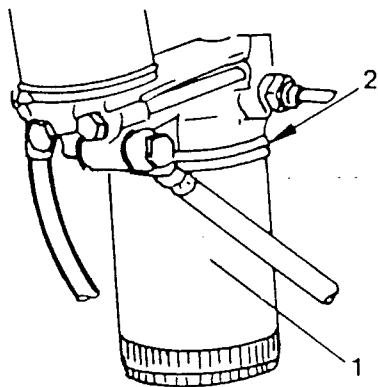

Fig 24 Lubricating oil filter
- 2 Check the oil level using the dipstick. The level should be up to the upper level mark (1 in Fig 24). Fill up with more oil as necessary.